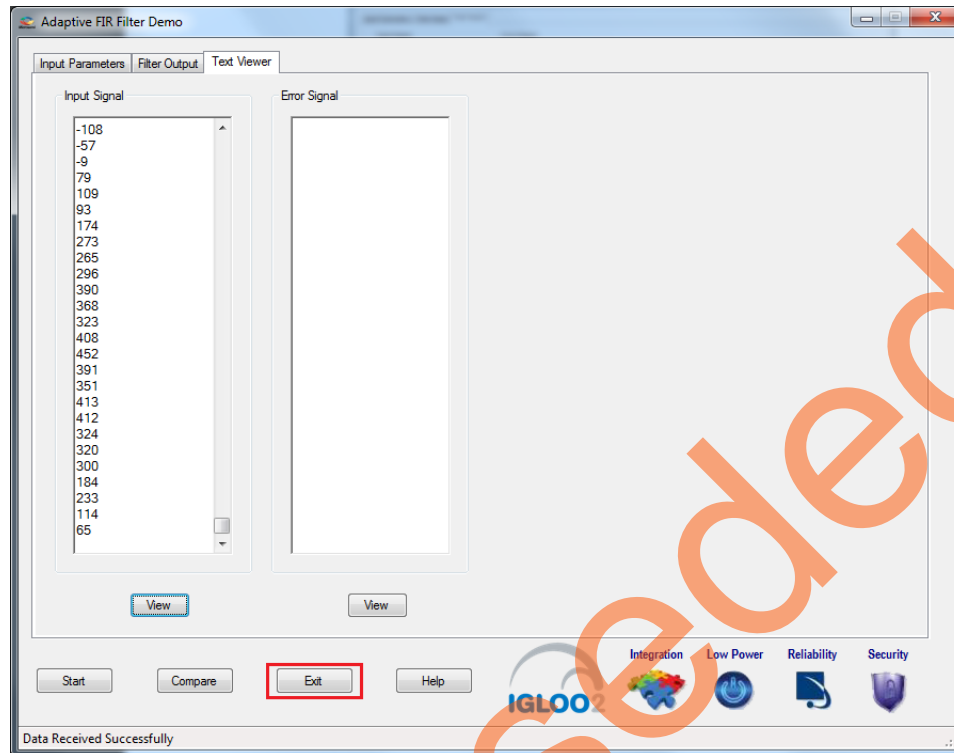

Figure 28 • Exit Demo
17. Click **Exit** to stop the demo, refer to Figure 28.